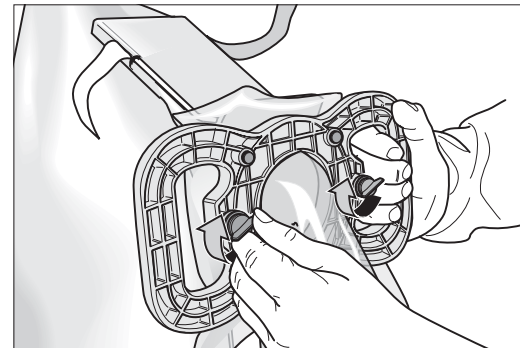

Fig. 19 Fix the emptying fixture to the dust bag.
- 12 Fix the emptying fixture to the dust bag by turning the two quick-release fasteners through 90° clockwise (Fig. 19).